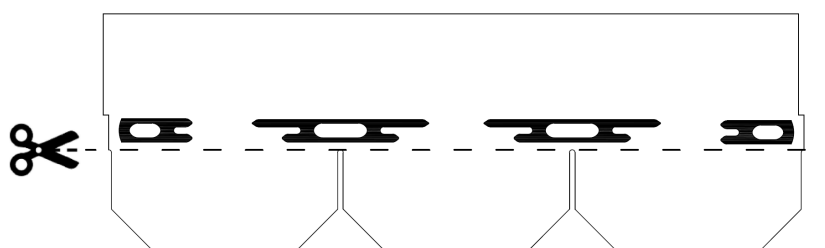

Fig. 6 - Starting row preparation
- Arrange the shingles for the starting row cutting the tabs, as shown in Fig. 6;